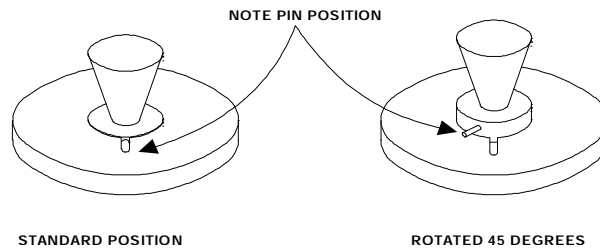

Figure 3 Filter Holder Positions
4. **Adjust the Zero or 0%T.** Select the wavelength you need. Lift the dosimeter holder slightly from the standard index position, rotate it 45 degrees to block the light path and simulate an infinite OD (see Figure 3). Adjust the 0%T knob to give a meter reading of zero transmission.